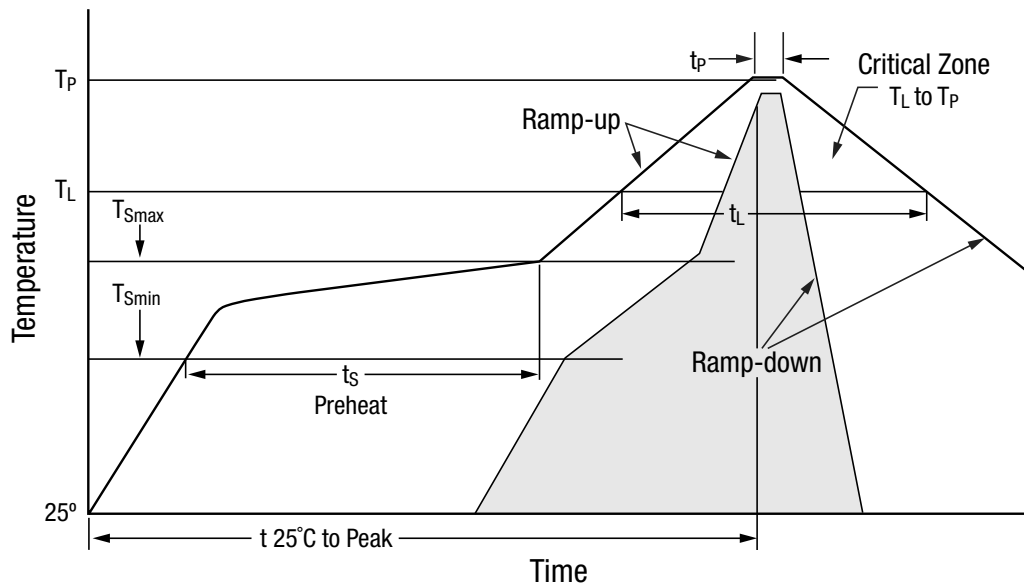

Figure 5: Reflow Profile
- It is recommended to use a long soak profile with the thicker LGA module with the square size as in Figure 5.